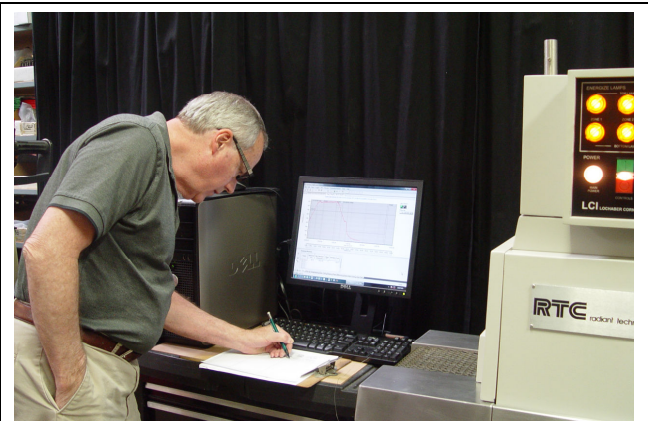

Figure 6-10 Recording Setpoints
- F. Record temperature setpoints and process gas flowmeter setpoints in a log (Figure 6-10)